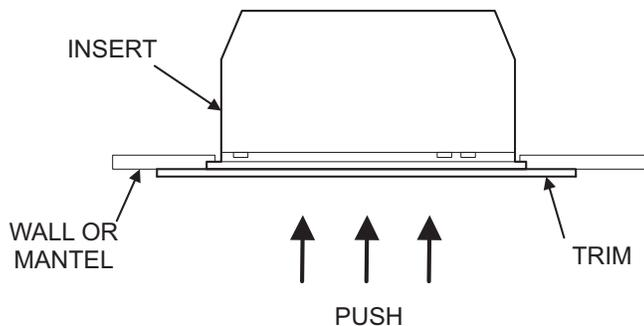

FIGURE 6
4. Push the Fireplace into place so that the trim is against the finished Mantel Surround or wall surface. (FIGURE 6).